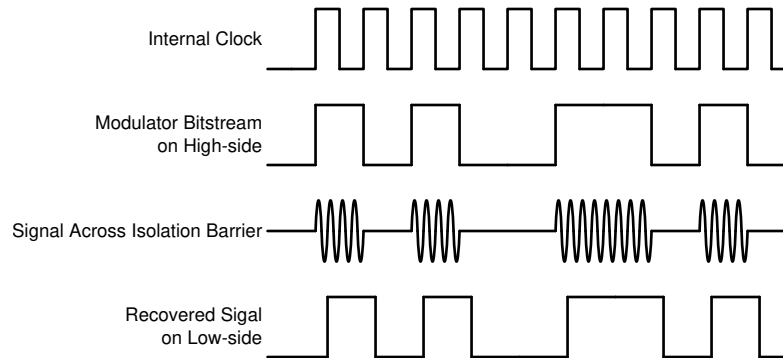

Figure 6-1. OOK-Based Modulation Scheme
The AMC3301 uses an on-off keying (OOK) modulation scheme, as shown in Figure 6-1, to transmit the modulator output bitstream across the capacitive SiO₂-based isolation barrier. The transmit driver (TX) shown in the Functional Block Diagram transmits an internally generated, high-frequency carrier across the isolation barrier to represent a digital *one* and does not send a signal to represent a digital *zero*. The nominal frequency of the carrier used inside the AMC3301 is 480 MHz.